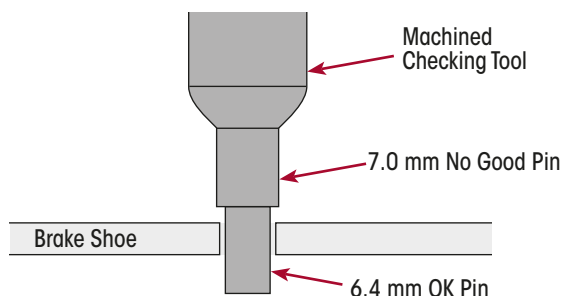

Figure 57: Shoe Rivet Hole Go-No-Go Gauge
5. Check shoe rivet holes for size and distortion. Use a go-no-go gauge that is 6.4 mm and stepped at 7.0 mm to determine hole size suitability. Refer Figure 57.